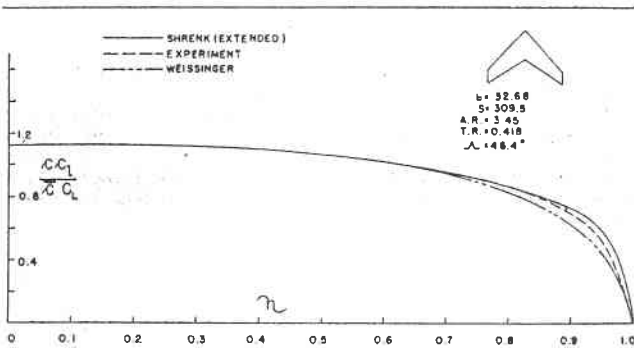

FIG. 3. Spanwise load distribution.
Fig. 3. A.R. = 3.45, 46.4° sweep, taper ratio 2.4 to 1. Excellent agreement of the method of Eq. (1) with Weissinger and experiment is noted over the inboard 70 per cent span. Over the outboard portion, the method of Eq. (1) is slightly closer to experiment than Weissinger.